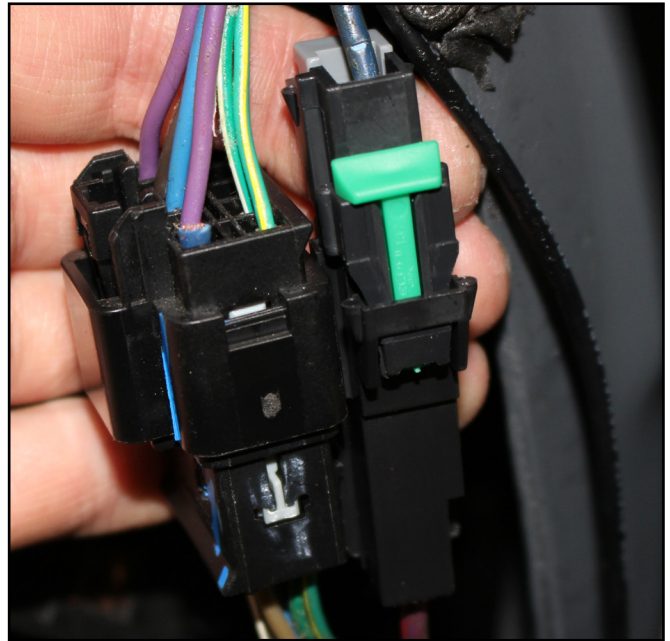

fig. 10
10. Connect all the connectors, insert the green TPA lock for the newly added components as shown (fig 10).